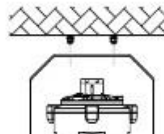

Figure 3
3. The holes on the bracket align with the expansion screws (Figure 3).